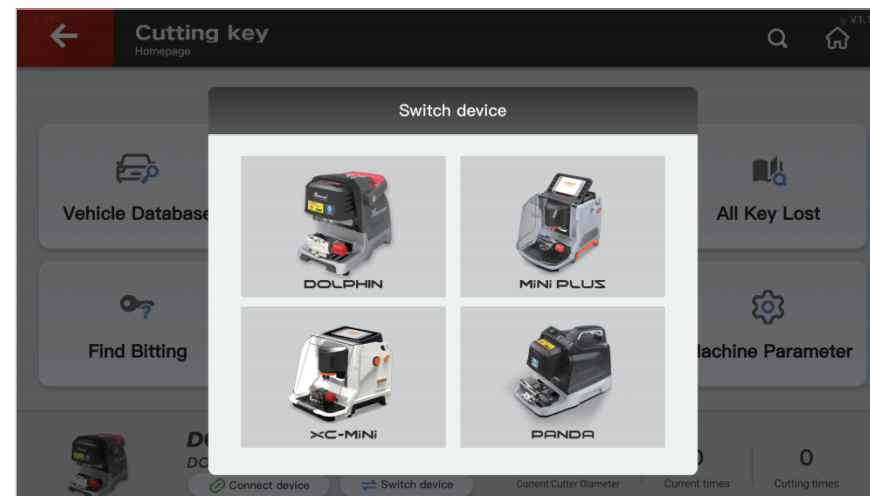

Fig.9.1.1
① Click 'Switch device', select the machine you need as shown in Fig. 9.1.1. Machines that are compatible with KEY TOOL PLUS include DOLPHIN, MiNi PLUS, XC Mini and PANDA.